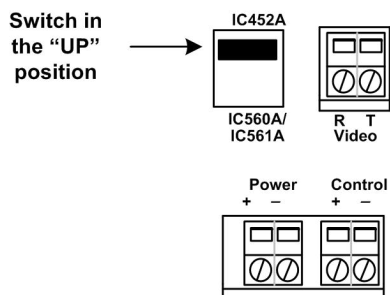

Figure 13: Port Setting – Pass-Thru Mode (IC452A)
5. In order to transmit video on one (1) twisted pair, remote power on two (2) twisted pairs and control on one (1) twisted pair, set the port switch to Pass-Thru Mode (IC452A) as shown in figure 13. Ensure that there is a CCTV Pass-Thru Balun (IC452A) at the camera.